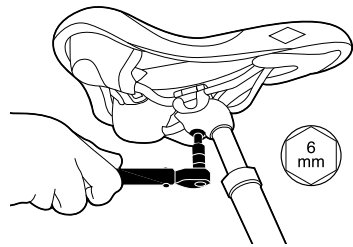

Figure 8. Tightening/loosening the fitting block
1. Loosen the screw that holds the saddle and seat post using a 6mm allen key as in *Figure 8* to obtain enough play to easily move the saddle.